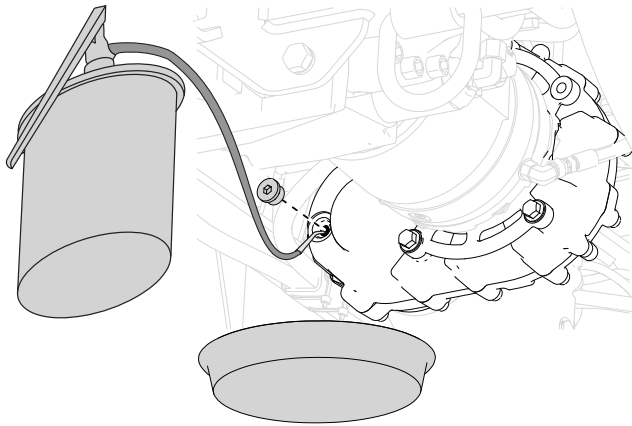

Figure 116
- Fill the gearbox with 0.34 L (11.5 fl oz) of the specified oil through the sight port (Figure 116).